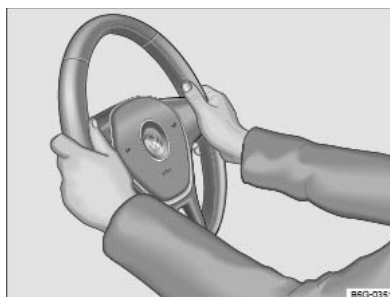

Fig. 78 On the steering wheel: 9 o'clock and 3 o'clock position.
- Adjust the steering wheel so that you can hold it with both hands at its circumference at the 9 o'clock and 3 o'clock positions with your arms slightly bent ⇒ *Fig. 78*.
- While driving, always keep both hands on the outside of the steering wheel at the 9 o'clock and 3 o'clock positions ⇒ Fig. 78. This reduces the risk of injury if the driver front airbag is triggered.